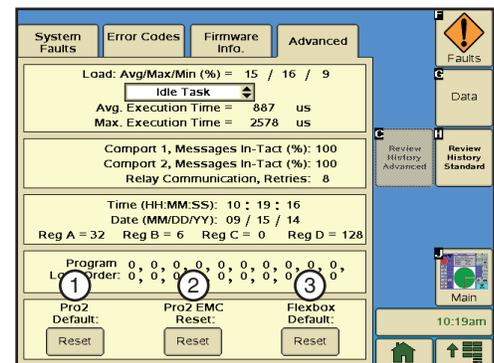

Figure 65-1 1. Reset Pro2 Memory to Default
2. From the Main screen, push the **Diagnostics (I)** button.
- **Pro2 Default** (Figure 65-1) - Used to reset and clear the battery-backed memory. If a reset is executed, all values within the Pro2 are set back to their default values. Examples:
- **Pro2 EMC Reset** (Figure 65-1) - Used to reboot the Touch-Pro module. Memory is not affected.
- **Flexbox Default** (Figure 65-1) - Used to reset and clear the flex box memory. If a reset is executed, appearance of the Main screen is affected as the settings on the following tabs are reset back to their default values: